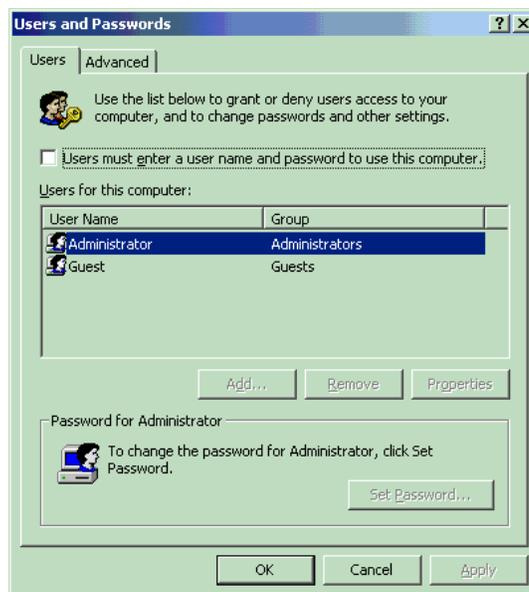

Figure 12. Users and Passwords Window
2. From the **Control Panel**, double-click **Users and Passwords**. The Users and Passwords window opens (Figure 12).